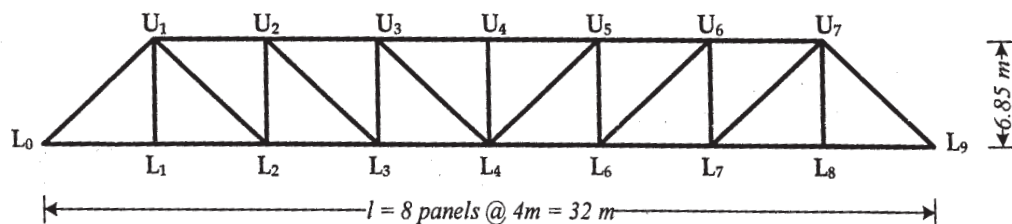

Fig. 1
**Q5)** Design the members  $L_0-L_1$ ,  $L_0-U_1$  for the broad gauge railway steel truss bridge shown in Fig. 1. The details are as follows. **[18]**